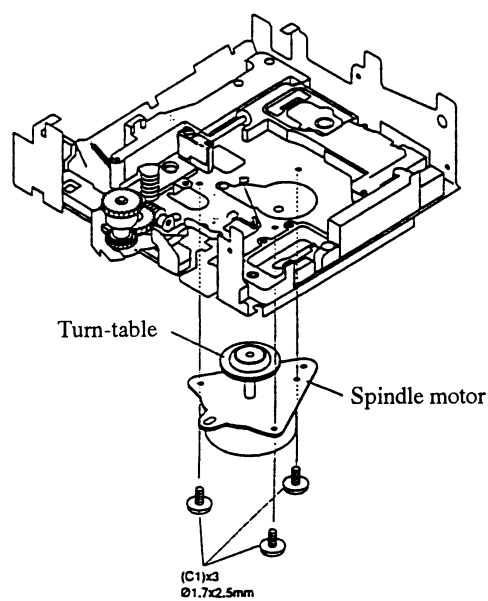

Fig.5
- Spindle motor take off (refer to Fig.5)